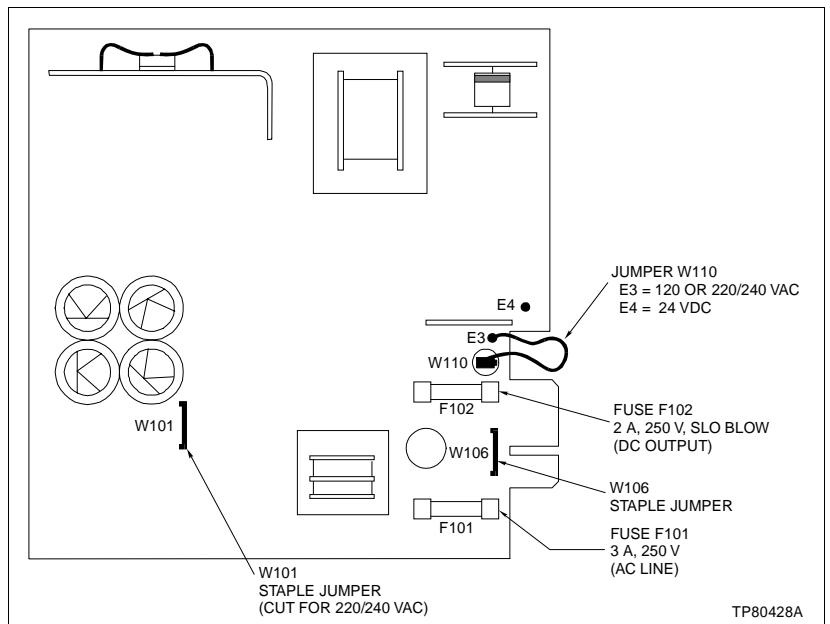
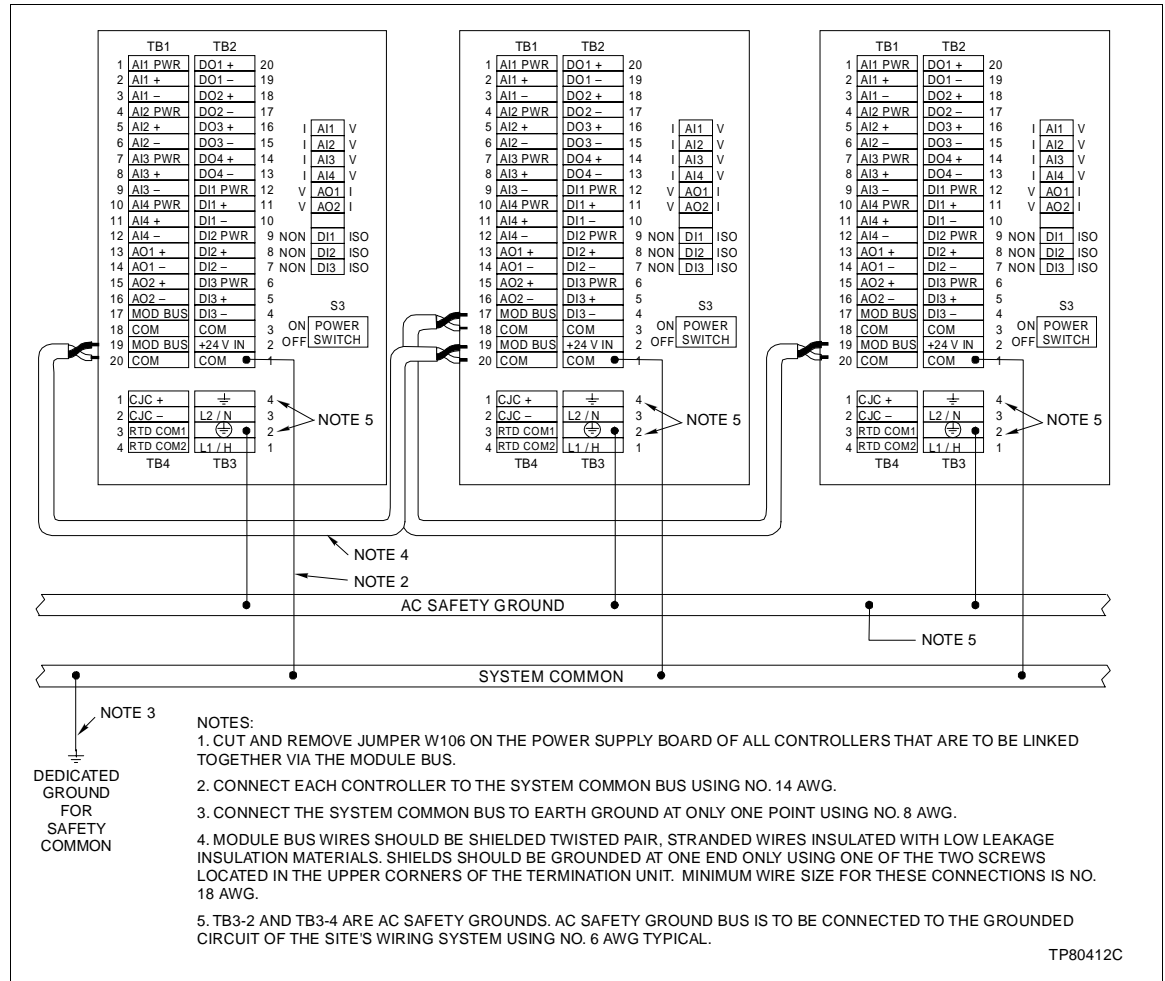

Figure 2-3. Power Supply Board
Figure 2-4. Recommended Single Point Grounding System
2. Connect the shield or ground wire to earth ground at TB3-4 (\perp) or TB3-2 (\oplus). Connect jumper W110 shown in Figure 2-3 to the E4 position.
The unit is factory set for 120 VAC (nominal). Jumper W110 should be connected to E3 (Fig. 2-3) for 120 VAC service. If 220 or 240 VAC is required, remove the power supply board and cut and remove jumper wire W101 (Fig. 2-3). It is recommended that the jumper wire be cut such that it is completely removed from the circuit.
Jumper W106 on the power supply board (Fig. 2-3) provides a connection for the DC system common to the earth ground. Jumper W106 can be cut and removed to isolate system common from earth ground.
Single Controllers Single point grounding of the Type SLC controller provides an analog and digital DC grounding system free of circulating currents. Jumper W106 on the power supply board (Fig. 2-3) connects the DC system common to the AC grounding conductor terminal TB3-2 (⊕). Jumper W106 can be cut and removed to isolate DC system common from AC ground.
Multiple Controllers If several Type SLC controllers are connected through the module bus communication link, then the system commons are also connected. For a single point grounding system, system common must be tied to earth ground only at one point. Cut and remove jumper W106 (Fig. 2-3) on the power supply board of all controllers that are to be linked together via the module bus. Use a separate 14 AWG jumper wire to connect the DC system common (TB2-1) of each controller to an isolated system common bus. From one point on the DC system common, use an eight AWG wire to connect to a dedicated earth ground (Fig. 2-4). This dedicated earth ground should connect to the same grounding point as the AC safety ground (typically the site grounding grid). There should be no more than one-ohm resistance between the DC system grounding conductor and the AC safety conductor.